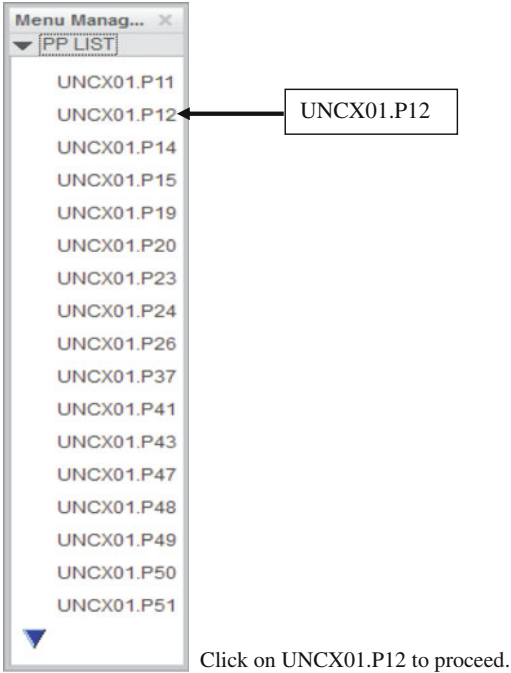

Fig. 2.82 Activated PP LIST Menu Manager dialogue box
The PP LIST Menu Manager dialogue box is activated on the main graphic window with all the available Post Processor (PP) list as shown in Fig. 2.82.